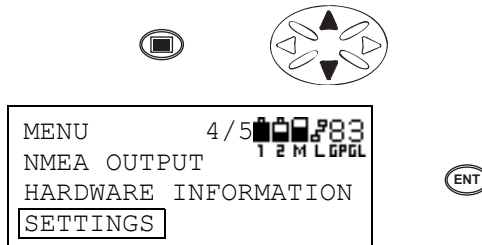

Figure 3-141. Initiate Menu Mode, Scroll to Settings, Press Enter
1. Press the **menu** key to enter the menu mode. Press the **up/down cursor key** to select SETTINGS and press **ENT** (Figure 3-141).